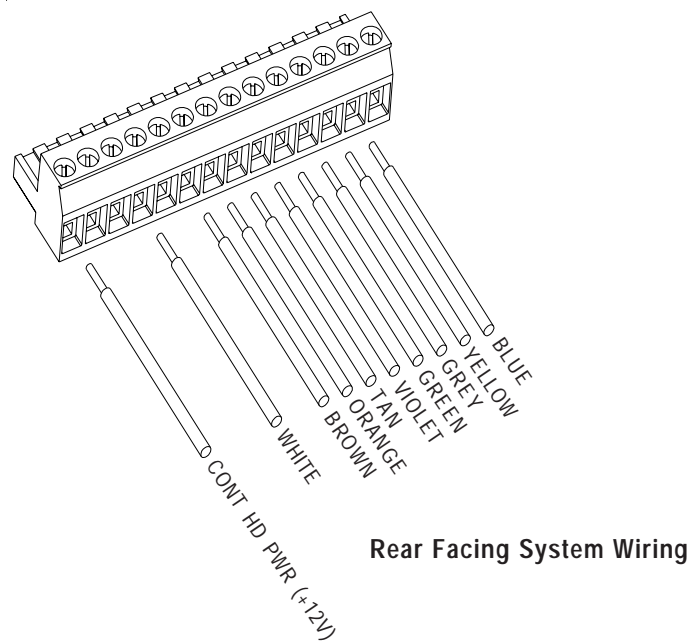

Figure 5
5. Remove the 14-position terminal plug from the back of the control head. Connect the the remaining wires, in the 11-wire cable, to the plug as shown in Figure 5, page 5. Connect power to the control head. See control head manual for auxillary wire functions.
BROWN ORANGE TAN VIOLET GREEN GREY YELLOW BLUE	INDIVIDUAL L.E.D. MODULE CONTROL WIRES (SEE FIGURE 5)
All Narrowstik models come equipped with a DIM, low power, mode as standard that allows the user to reduce the L.E.D. intensity, if desired. The current consumption is also significantly reduced in this mode (approximately 60%). Dim mode is controlled by the White wire in the 11-wire cable, see figure 5, page 5. When +12V is applied to this white wire the modules will DIM until removed. The Narrowstik control head has an output dedicated to provide this +12V, see the Control Head manual for details.